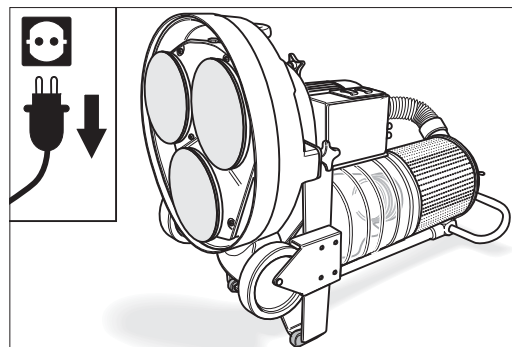

Fig. 3 Carefully tilt the machine backwards to be able to access the gears. **Make sure the machine is in a safe position!**
- 3 While holding on to the handle, carefully tilt the machine backwards into a horizontal position. Make sure that the machine gets to rest safely on the guide tube and the two protective cushions. Now the sanding gear is accessible from the front (Fig. 3). **Make sure the machine is in a safe position!**